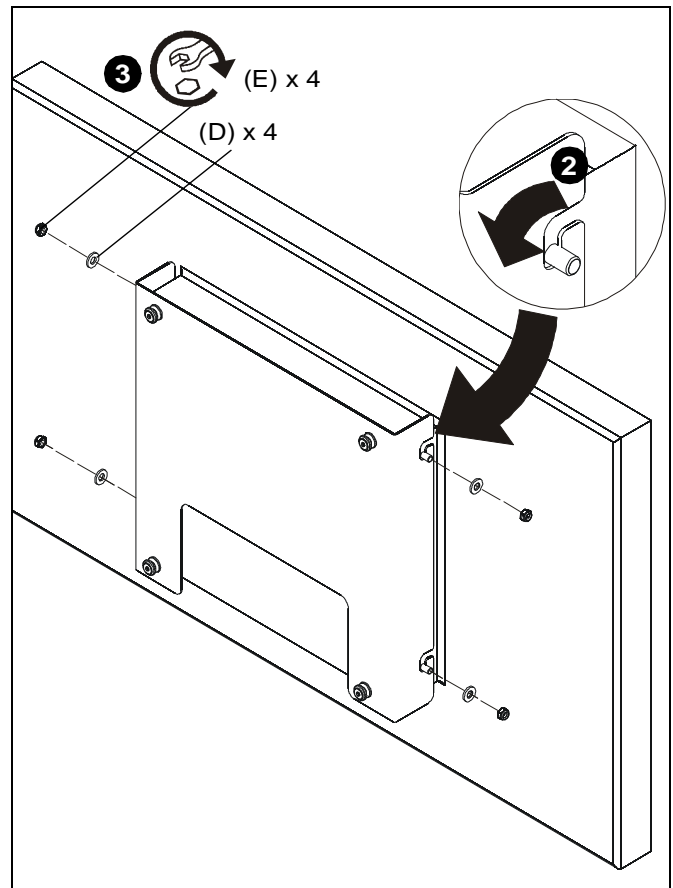

Figure 2
2. Hook interface bracket (A) onto four studs on back of display. (See Figure 2)
3. Attach interface bracket (A) to back of display using four M8 lock nuts (E) and four M8 washers (D). (See Figure 2)